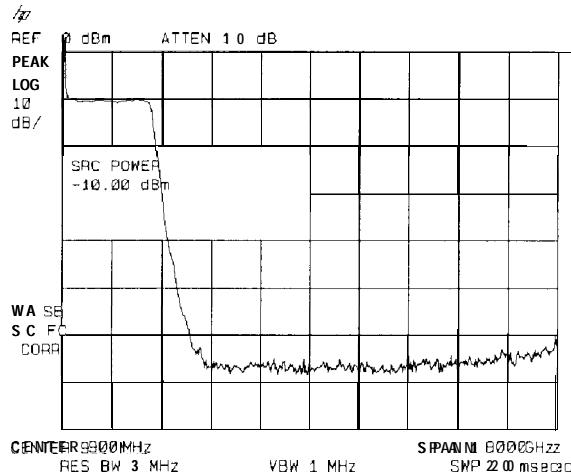

Figure 4-5. Tracking-Generator Output Power Activated
3. Activate the tracking generator menu by pressing **AUX CTRL** and **Track Gen**. To activate the tracking-generator power level, press **SRC PWR ON OFF** until **ON** is underlined (see Figure 4-5).